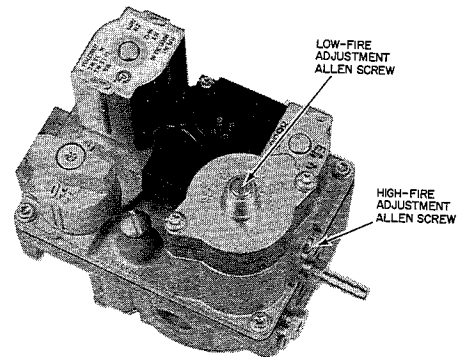

Fig. 7—Gas Valve
- Remove burner enclosure front and low-fire regulator adjustment seal cap. See Fig. 7.
- Replace low-fire regulator adjustment seal cap, and remove high-fire regulator adjustment seal cap. See Fig. 7.